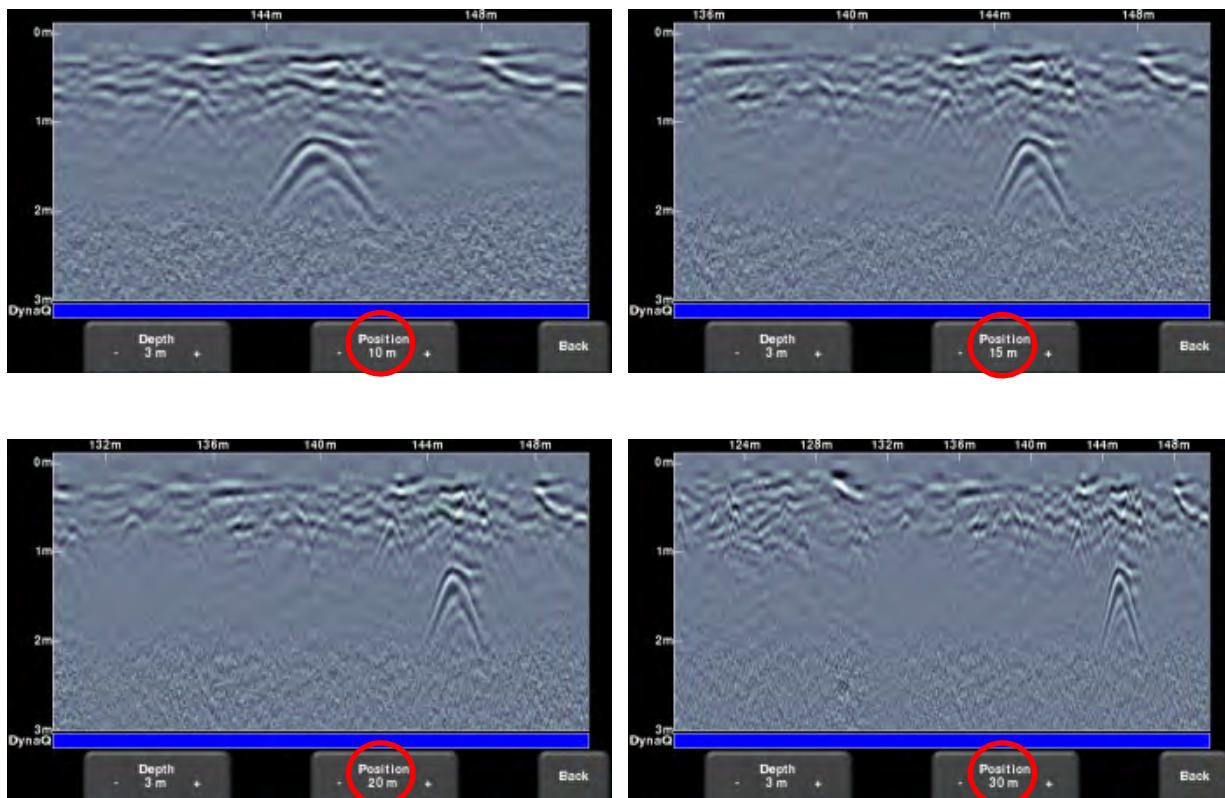

Figure 6-8: Varying position, or horizontal scaling
- **Position** – Pressing **+** and **-** under the **Position** button allows you to change the length of data display on a single screen. This is also known as horizontal scaling. The pre-set values range from 10m to 30m (25' to 100'), see Figure 6.8.